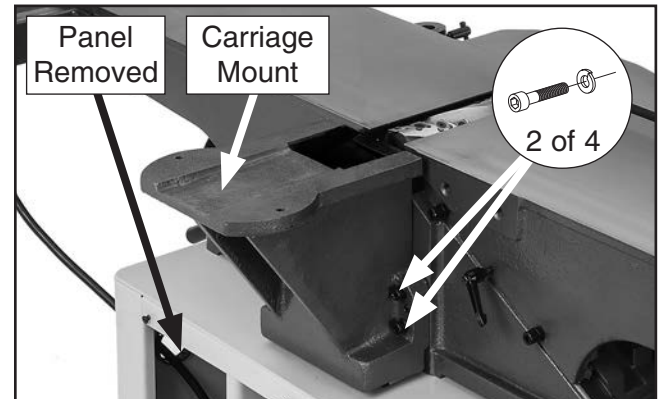

Figure 13. Carriage mount installed.
3. Remove cabinet stand rear access panel, then install carriage mount to jointer using (4) pre-installed cap screws and lock washers (see **Figure 13**).